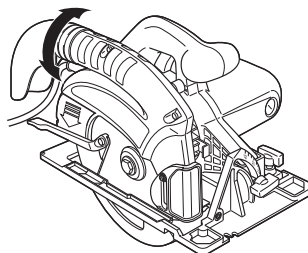

Fig. 12
(2) Turn the dust guide and point it in the desired direction to discharge sawdust. (Fig. 12)